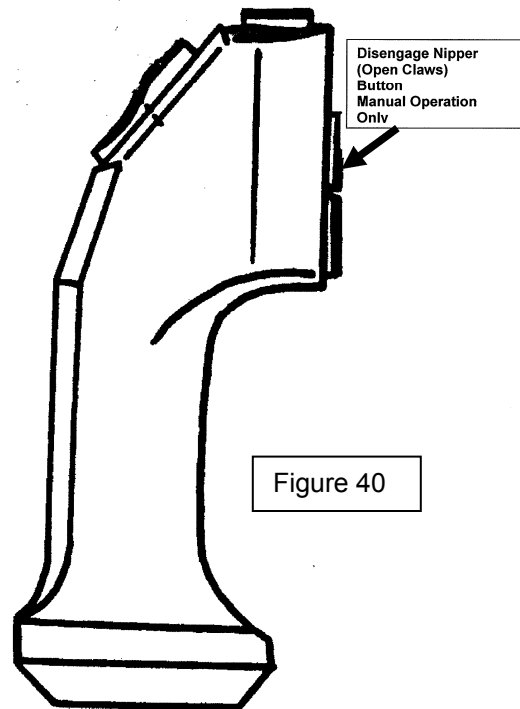

Figure 40
3. Turn the nipper hooks OPEN flow control valve adjusting screw (Figure 40) counterclockwise (CCW) all the way out, then one half of a turn clockwise (CW) back in.
11. Press and release the **NIPPER ENGAGE** pushbutton on either operator’s right hand controller (Figure 40). (Nipper Set button will not function in auto-nipper mode)